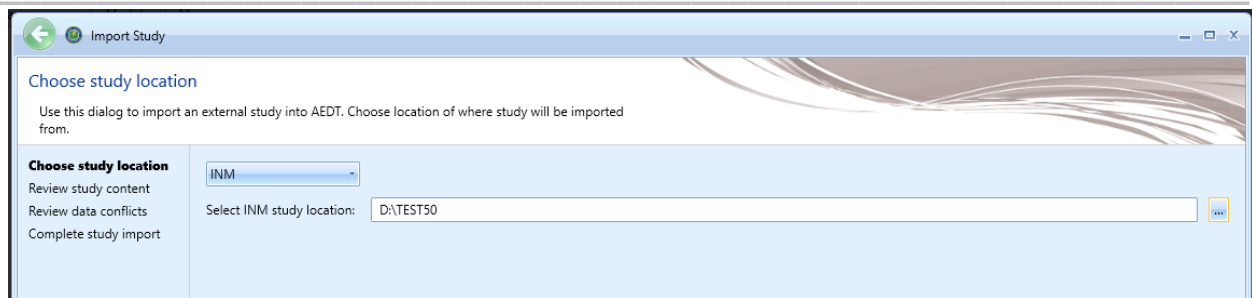

Figure 51 - Choose study location
2. Click the *Study* tab and click *Import* to display the *Import Study* dialog (Figure 51).